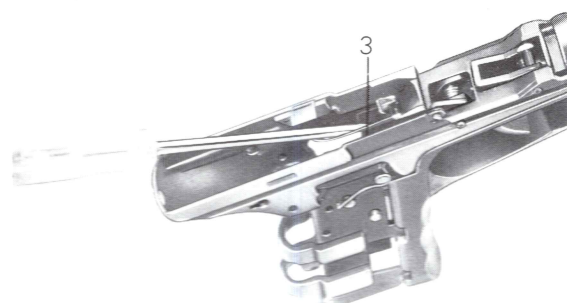

Fig. 24
- Release the catch spring (3) from the pin and disengage from the catch (2) (Fig. 24), then remove the catch together with the spring. (Do not distort the spring).